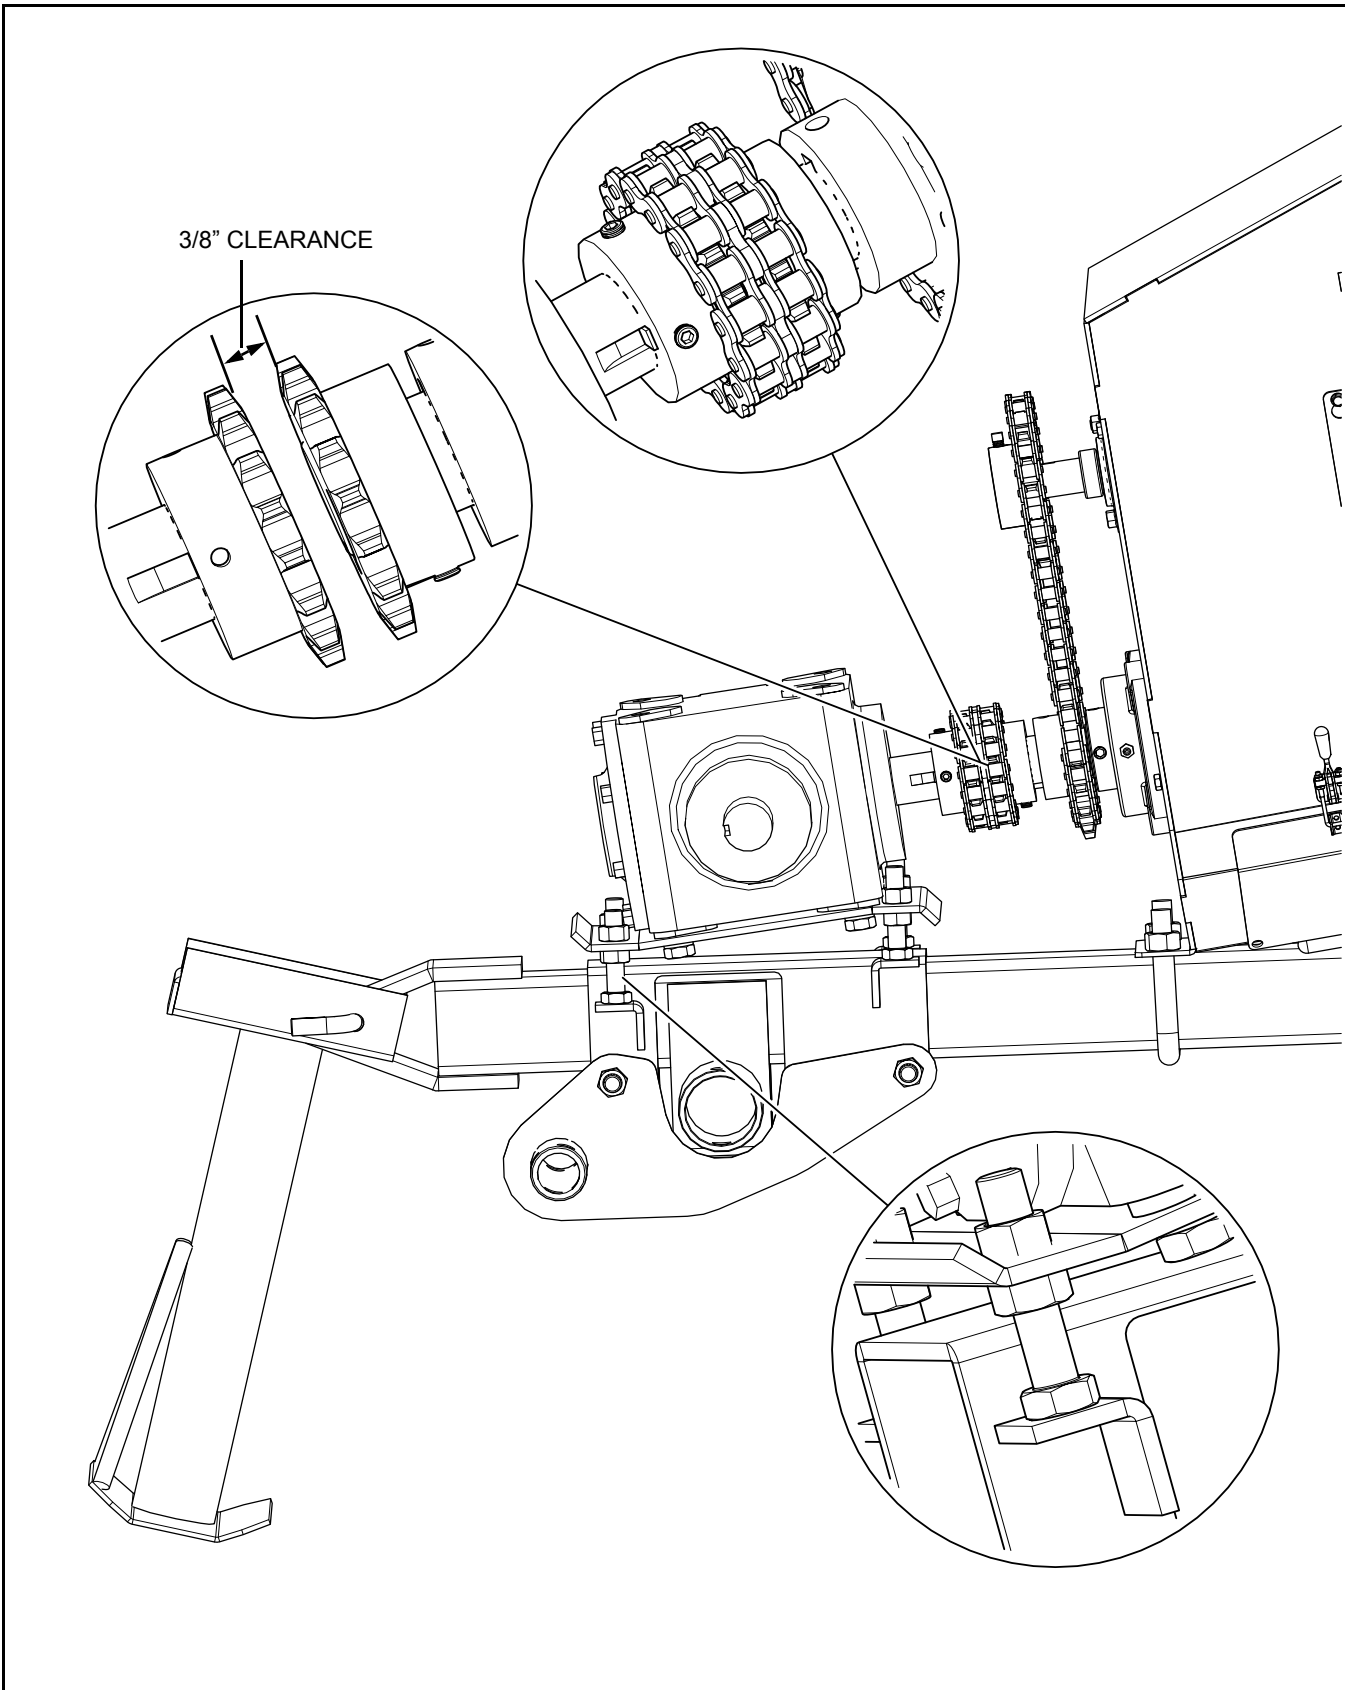

Figure 5 Adjusting Gearbox and Installing Coupler Chain
7. Align the coupler sprockets by adjusting gearbox vertically and horizontally. Leave about 3/8" clearance between sprockets (see Figure 5).
11. Install the coupler chain on the coupler sprockets (see Figure 5).